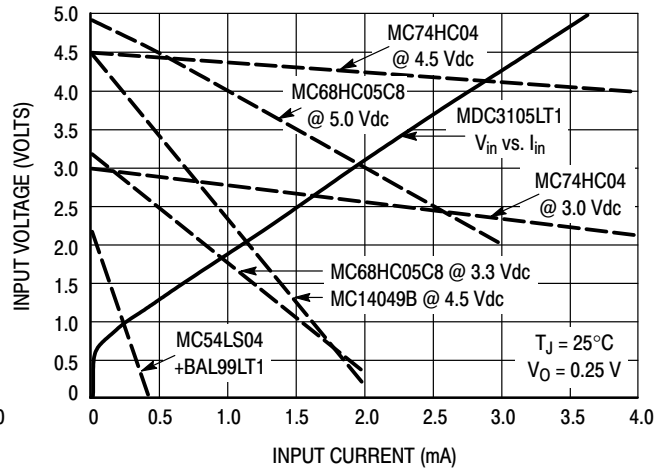

Figure 3. Input V-I Requirement Compared to Possible Source Logic Outputs
6. For levels of input current above $100 \mu\text{A}$, enter Figure 3 using that max input current and determine the input voltage required to drive the MDC3105 from the solid V_{in} versus I_{in} line. Select a suitable drive source family from those whose dotted lines cross the solid input characteristic line to the right of the I_{in} , V_{in} point.